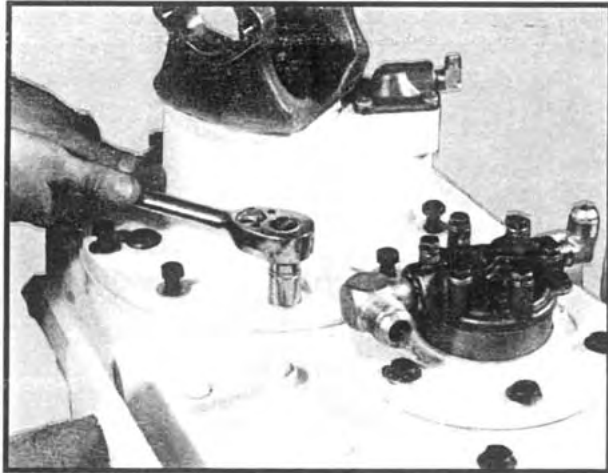

Fig 6
2. Remove the (10) cap screws and washers securing the rear output carrier to the transfer case housing. See Figure 6.